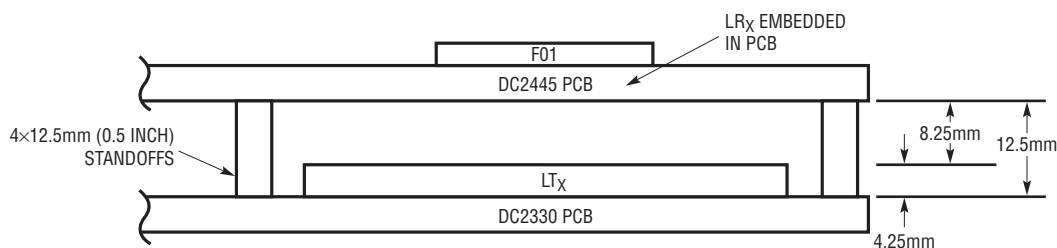

Figure 3. As Shipped Demo Kit Air Gap
- 1 × DC2445A-A/DC2445A-B (LTC4120EUD) Demo board (with 12.5mm (0.5") Nylon Standoffs, 8.25mm Gap), see Figure 3
This should result in the transmit antenna being directly above the receive antenna, with the centers aligned. The standoffs on the DC2445A-A/DC2445A-B are 0.5" (12.5mm) when shipped. This results in an air gap of 8.25mm (See Figure 3). The DC2386A kit ships with three additional standoff sizes. This allows the air gap to be varied from 0.083" (~2.0mm) to 0.46" (~11.6mm).